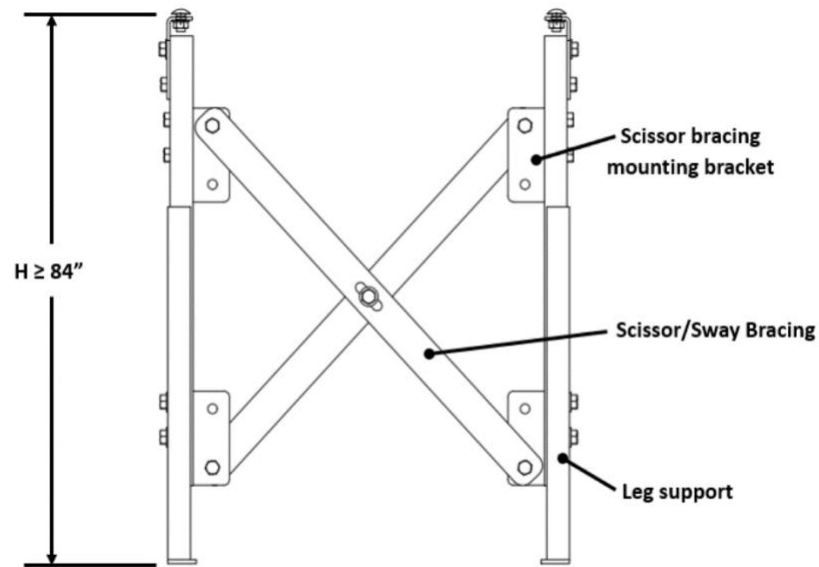

Figure 30: Scissor Bracing
Scissor (sway) bracing provides extra support and reduces side movement in the HD support. Side movement is most prevalent on long straight runs and when support heights exceed 84 inches. Scissor bracing should be installed on every third support when the support height equals or exceeds 84 inches. Each scissor brace should include (4) scissor mounting brackets and (2) scissor brace straps. See Figure 30.